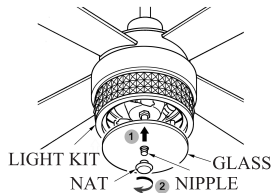

FIG.19
8. Carefully lift the glass shade up inside the light kit and tighten the nat. (see Fig.19)